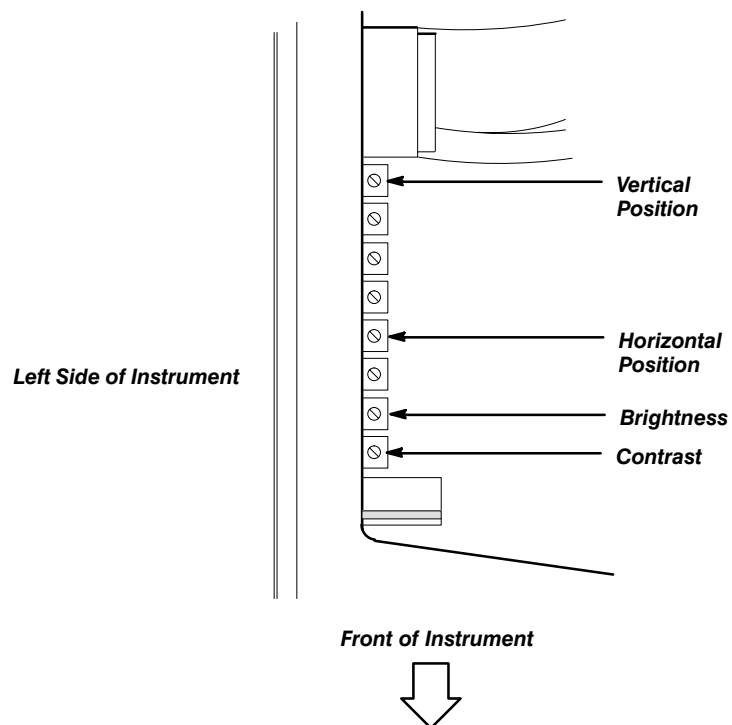

Figure 5-4: Monitor Adjustments
6. Locate the brightness potentiometer (see Figure 5-4). Use an adjustment tool (Item 1) to raise the brightness until the background of the screen turns green.